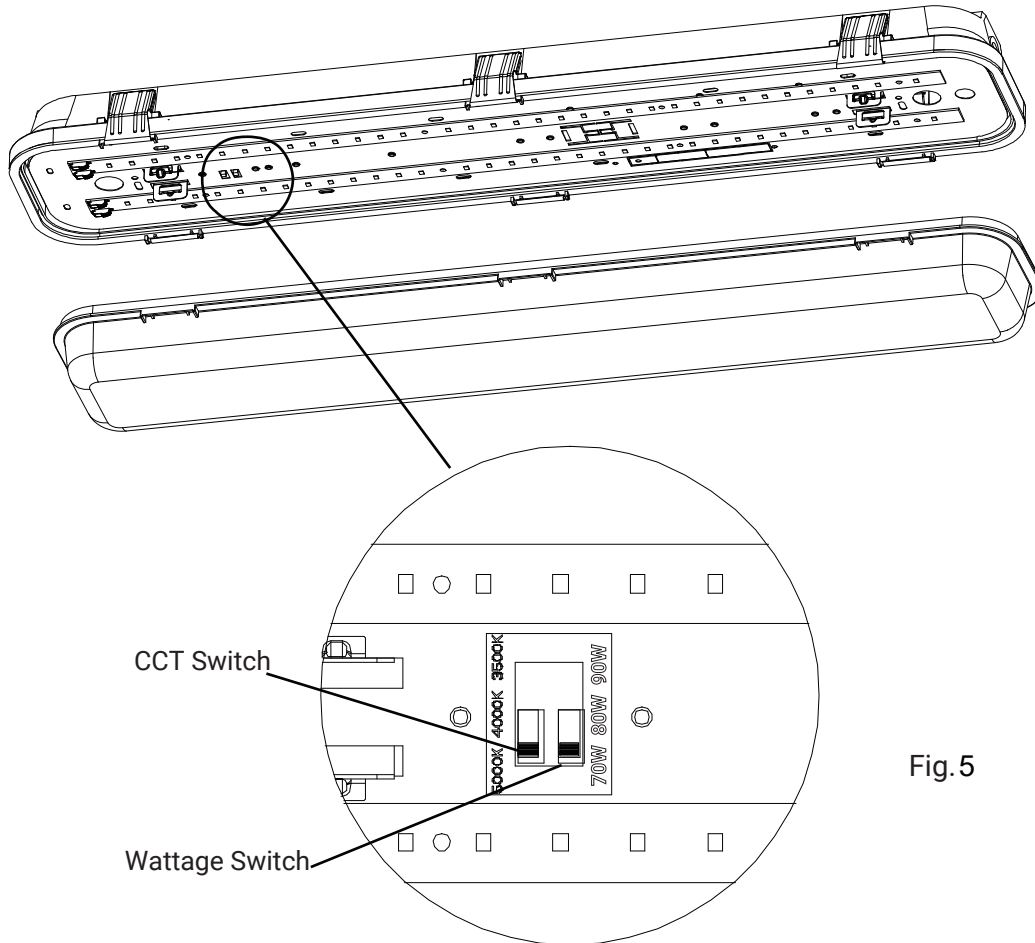

Fig.5
2. Select a wattage and color temperature by sliding switch left or right respectively to the desired value. (Fig.5)